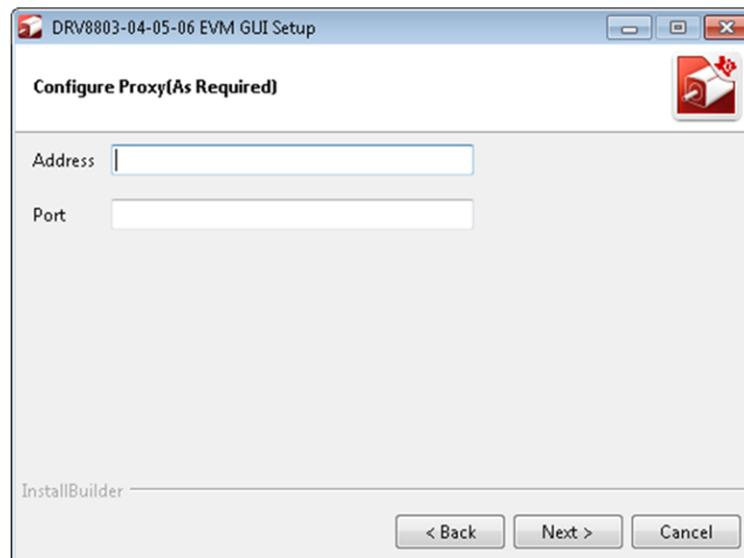

Figure 12. Configure Proxy
7. If LabVIEW RTE is selected as a component to install, a screen appears as shown in Figure 12. Configure the proxy settings as required. This screen is to download the LabVIEW RTE 2014 from ni.com, Click **Next** to continue the installation.